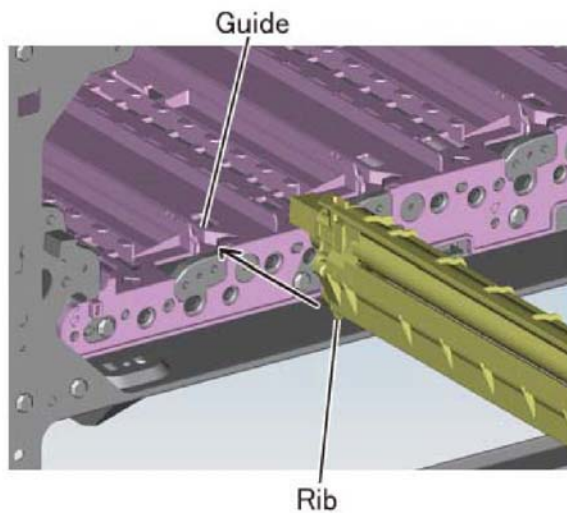

Figure 4 Developer unit replacement alignment
2. When installing the developer unit, align the developer unit rib to the main unit guide, Figure 4.